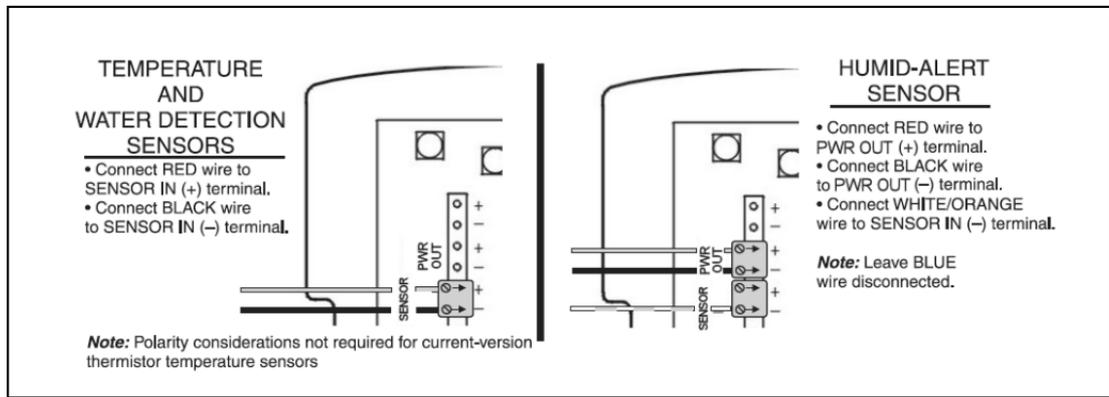

Figure 7. EA200 / EA400 Sensor Connections
3. Using the Terminal Block Adapter included with the sensor, connect the sensor wires to the appropriate SENSOR IN (+) and (–) connector on EA200 / EA400 circuit board header connector as shown in Figure 7. Where applicable, observe proper polarity.